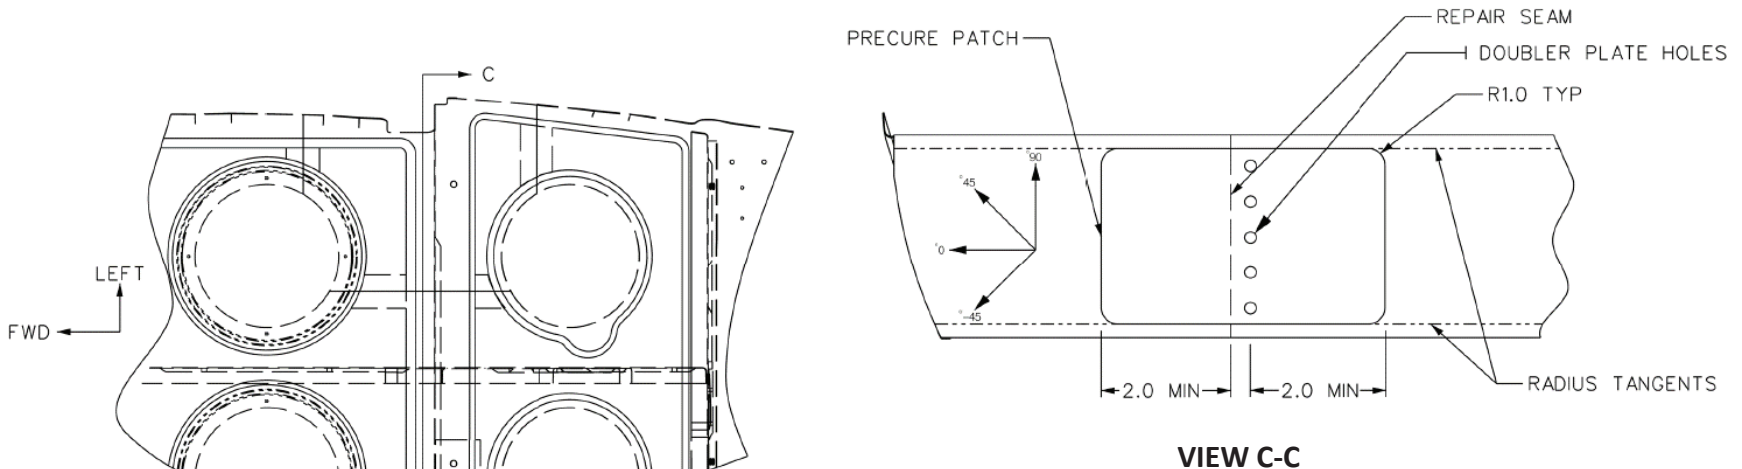

FIGURE 4
1. FABRICATE PRECURE REPAIR PATCH FOR AFT FLOOR TOOLSIDE SURFACE. REFER TO FIGURE 4.
- A. USE 52005-003 TO FABRICATE PRECURE REPAIR PATCH. ALIGN 0° OF PRECURE PATCH W.R.T. ROSETTE IN FIGURE 4.